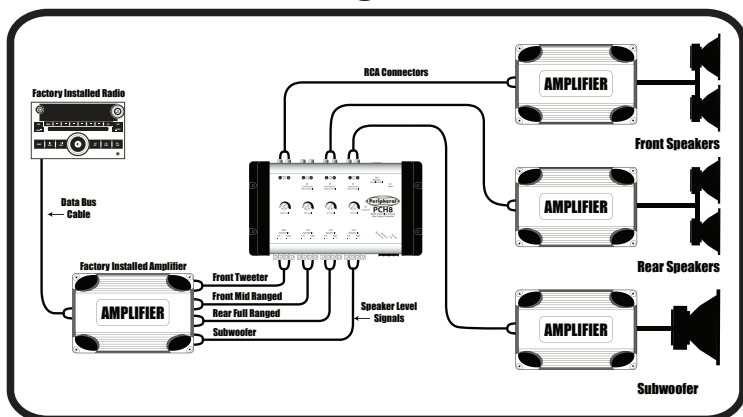

Figure 3: Example connection diagrams
Below are the installation steps for your PCH8. To ensure proper installation, please follow the steps closely in the order provided. For help, see Figure 3.
1. **Connect the speaker wires:** Following the appropriate diagram in Figure 3, run your speaker wires to your PCH8 Speaker Input channels. Make sure the positive (+) and negative (-) connections match. If necessary, refer to the factory service manual or wiring-harness to locate your system's speaker wires.
1. **Connect the Main Pre-Amp Outputs:** Following the appropriate diagram in Figure 3, run RCA connectors from the Main Pre-Amp Outputs to the inputs of your amplifiers.